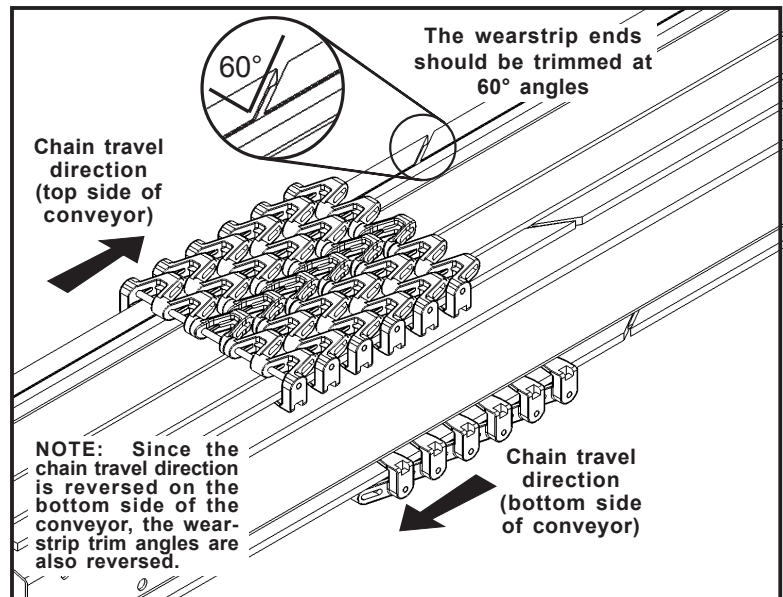

Figure 10: Overview of Wearstrip assembly
CUT ANGLE: The ends of adjoining wearstrip sections should be trimmed at 60° angles, as shown in *Figure 10*. This angle, in conjunction with the direction in which the angles are cut (discussed below), allows the chain to travel smoothly over the wearstrip joint.
CUT DIRECTION: The direction in which the conveyor chain will travel dictates the direction at which the wearstrip angles will be cut. *Figure 10* shows the correct angles in relation to the direction of chain flow. When making cuts, keep in mind that the conveyor chain runs in the opposite direction on the underside of the frame.
*Ensure that the angles are cut correctly with regard to the direction of chain flow. Refer to **Figure 10** on previous page.*